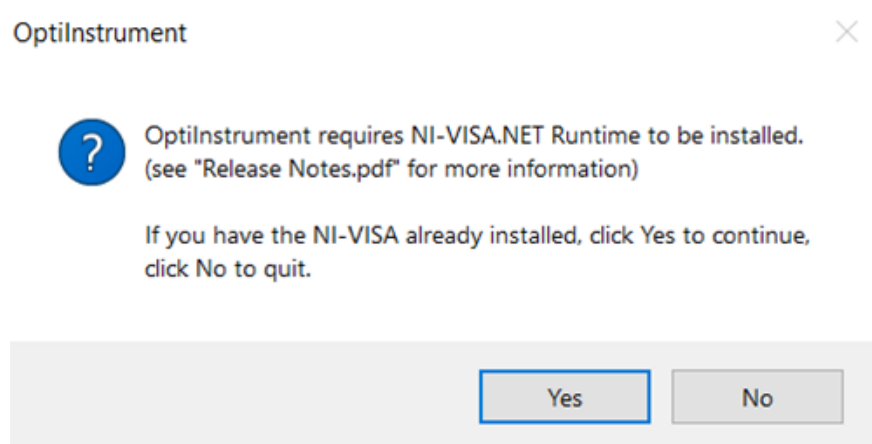
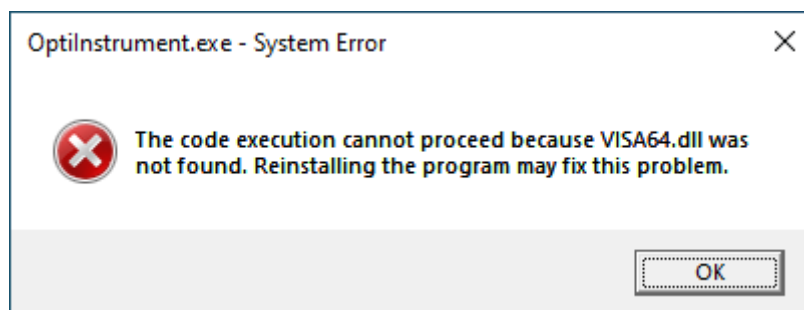

Fig. 1 OptiInstrument installation popup message
Fig. 2 OptiInstrument installation error message when NI-VISA Runtime is not preinstalled
- When starting the installation process of OptiInstrument, the popup message shown in Fig.1 offers the user a choice to quit the installation process if the NI-VISA.NET Runtime package is not installed on the same computer or continue the installation if the package is installed. However, the error message shown in Fig. 2 appears when the user initiate OptiInstrument application and the NI-VISA package is not installed.